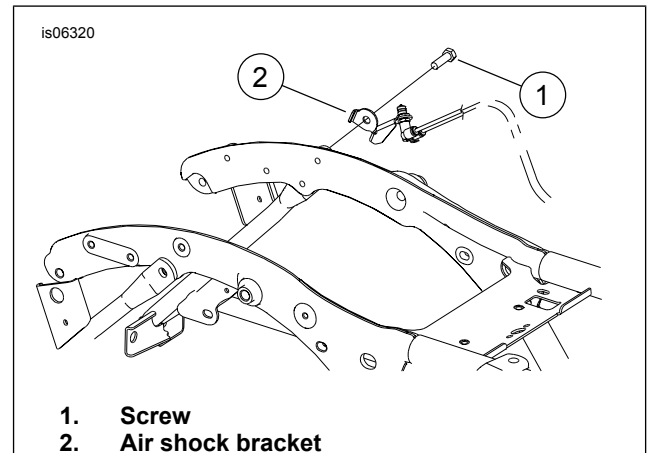

Figure 1. Remove Air Shock Bracket
2. See Figure 1. Remove the screw and assembly. Save the air valve bracket assembly if you plan to reuse the air shocks. Install the screw to the frame rail and saddlebag support and tighten to 20.3–27.1 N·m (15–20 ft·lbs). If wire harness is secured to air shock bracket with a cable strap, remove cable strap. Install a new cable strap around wire harness and saddlebag support.